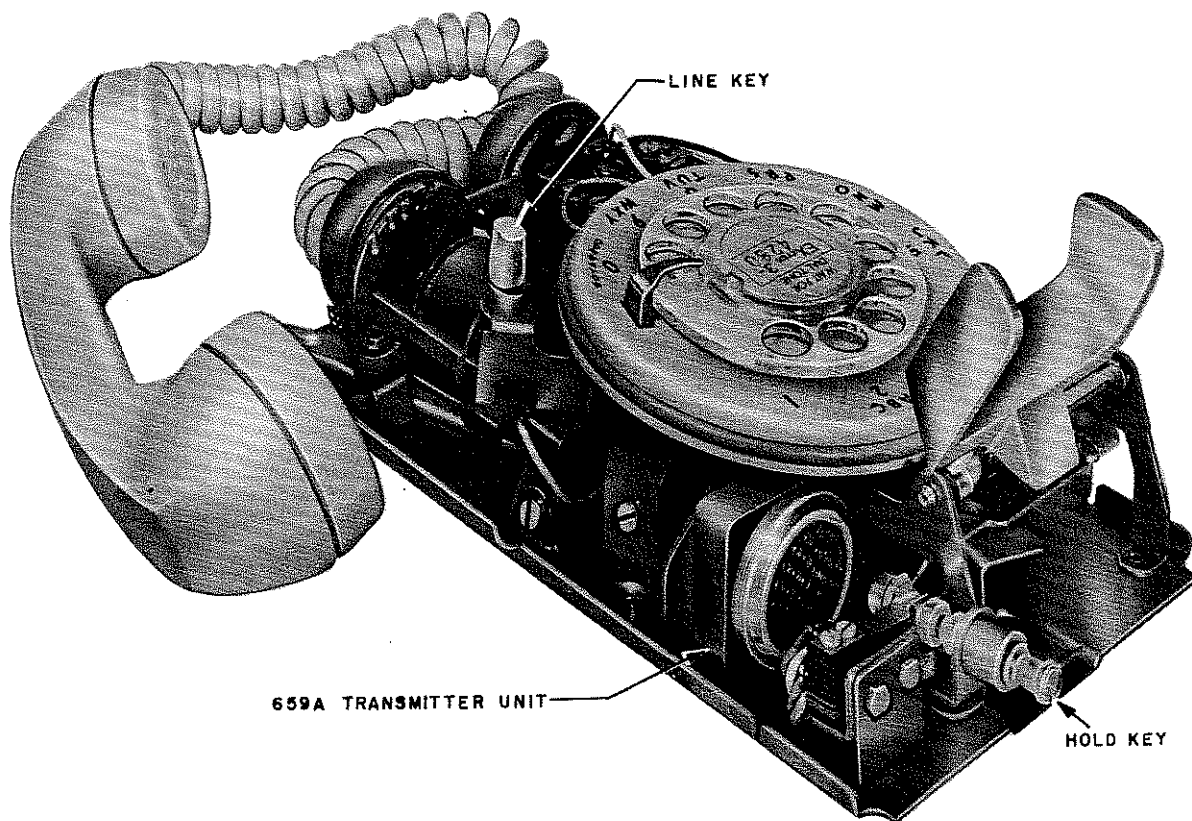

Fig. 6 — 659A Transmitter Unit Mounted in 558DRW Telephone Set
6.02 659A and 660A transmitter units are mounted in telephone sets as shown in Fig. 6 and 7.